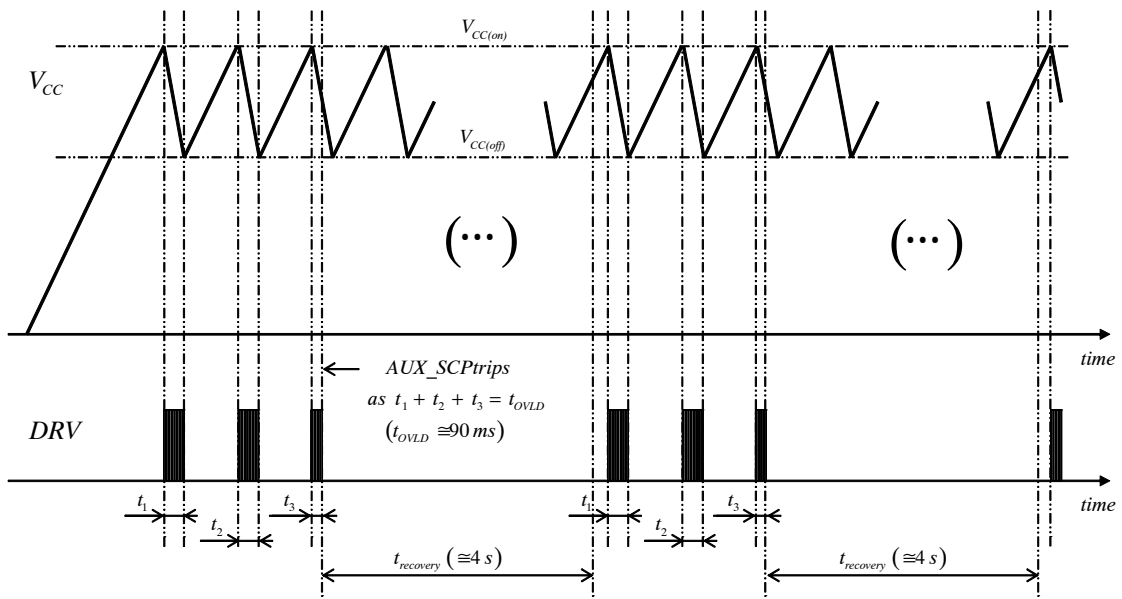

Figure 60. Start-up Sequence in a Load Short-circuit Situation (auto-recovery versions)
- If the load is shorted, the circuit will operate in hiccup mode with  $V_{\text{CC}}$  oscillating between  $V_{\text{CC(off)}}$  and  $V_{\text{CC(on)}}$  until the AUX\_SCP protection trips (AUX\_SCP is triggered if the ZCD pin voltage does not exceed 1 V within a 90-ms operation period of time thus indicating a short to ground of the ZCD pin or an excessive load preventing the output voltage from rising). The NCL30186A and NCL3006C latch off in this case. With the B and D versions, the AUX\_SCP protection forces the 4-s auto-recovery delay to reduce the operation duty-ratio. Figure 60 illustrates a start-up sequence with the output shorted to ground, in this second case.